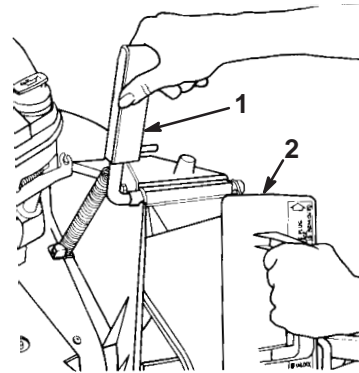

Figure 3
1. Open the discharge door by pulling forward on the handle and moving it rearward (Fig. 3). Hold the discharge door handle to prevent the spring-loaded door from closing while inserting the plug.
2. Since the plug is slightly wider than the discharge tunnel opening, rotate the plug clockwise slightly while inserting it (Fig. 3). Make sure the arrow on the plug decal is pointing upward.